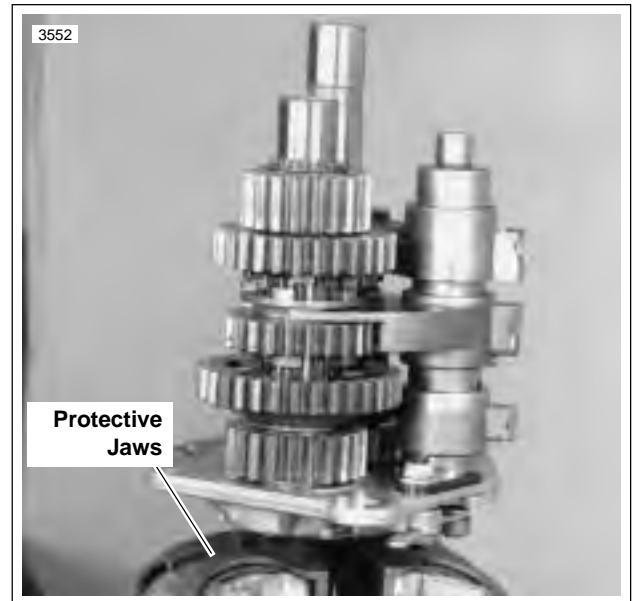

Figure 6-34.
1. Remove transmission assembly. See 6.7 TRANSMISSION CASE. See Figure 6-34. Clamp transmission assembly in a vise, with protective jaws, to work on disassembly.